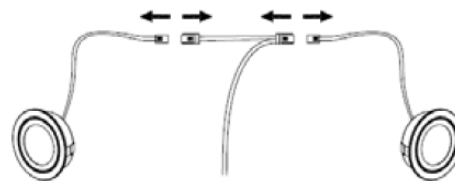

Fig. 9.2
- Disconnect the connector as illustrated in(Fig. 9.2).